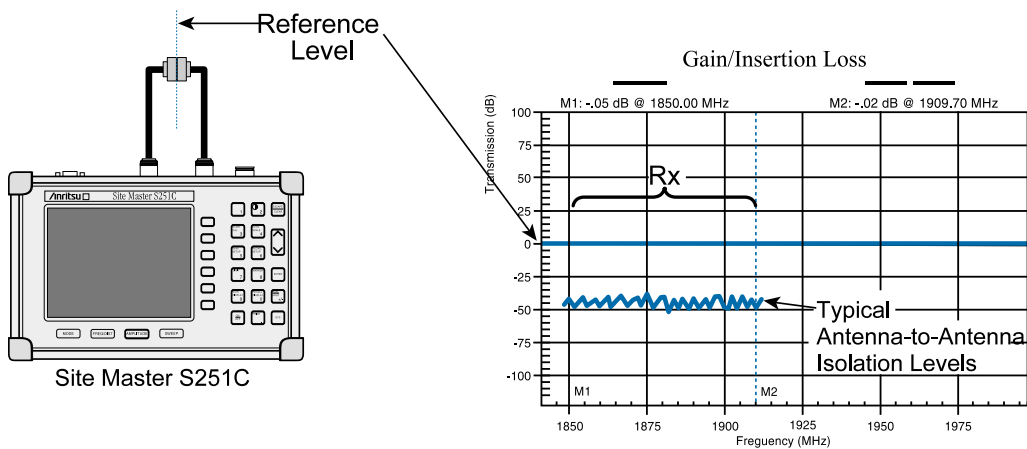

Figure 4-16. Calibration Reference Level
- Step 4.** Perform a full two port calibration of the Site Master (see page 3-4). The calibration will provide a 0 dB reference level as shown in Figure 4-16.